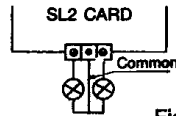

Fig. 3
4.C) This card has a three-poles terminal; central pole must be connected to the blue wire (common) of the two lamps; the other two pole terminals must be connected to the back wire of the lamps (see fig. 3).